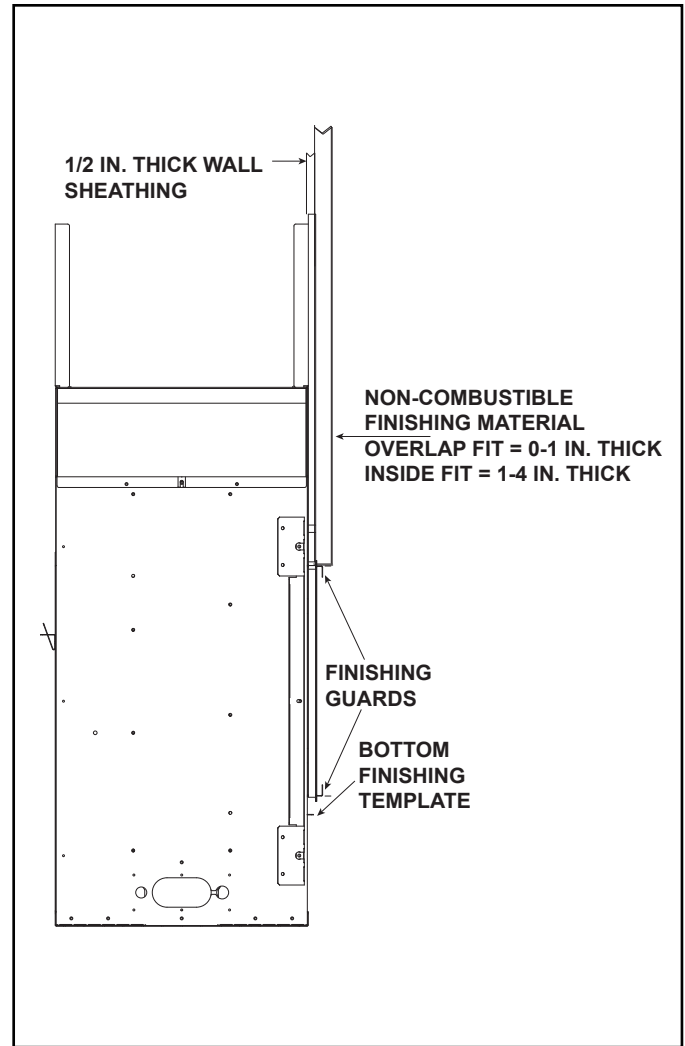
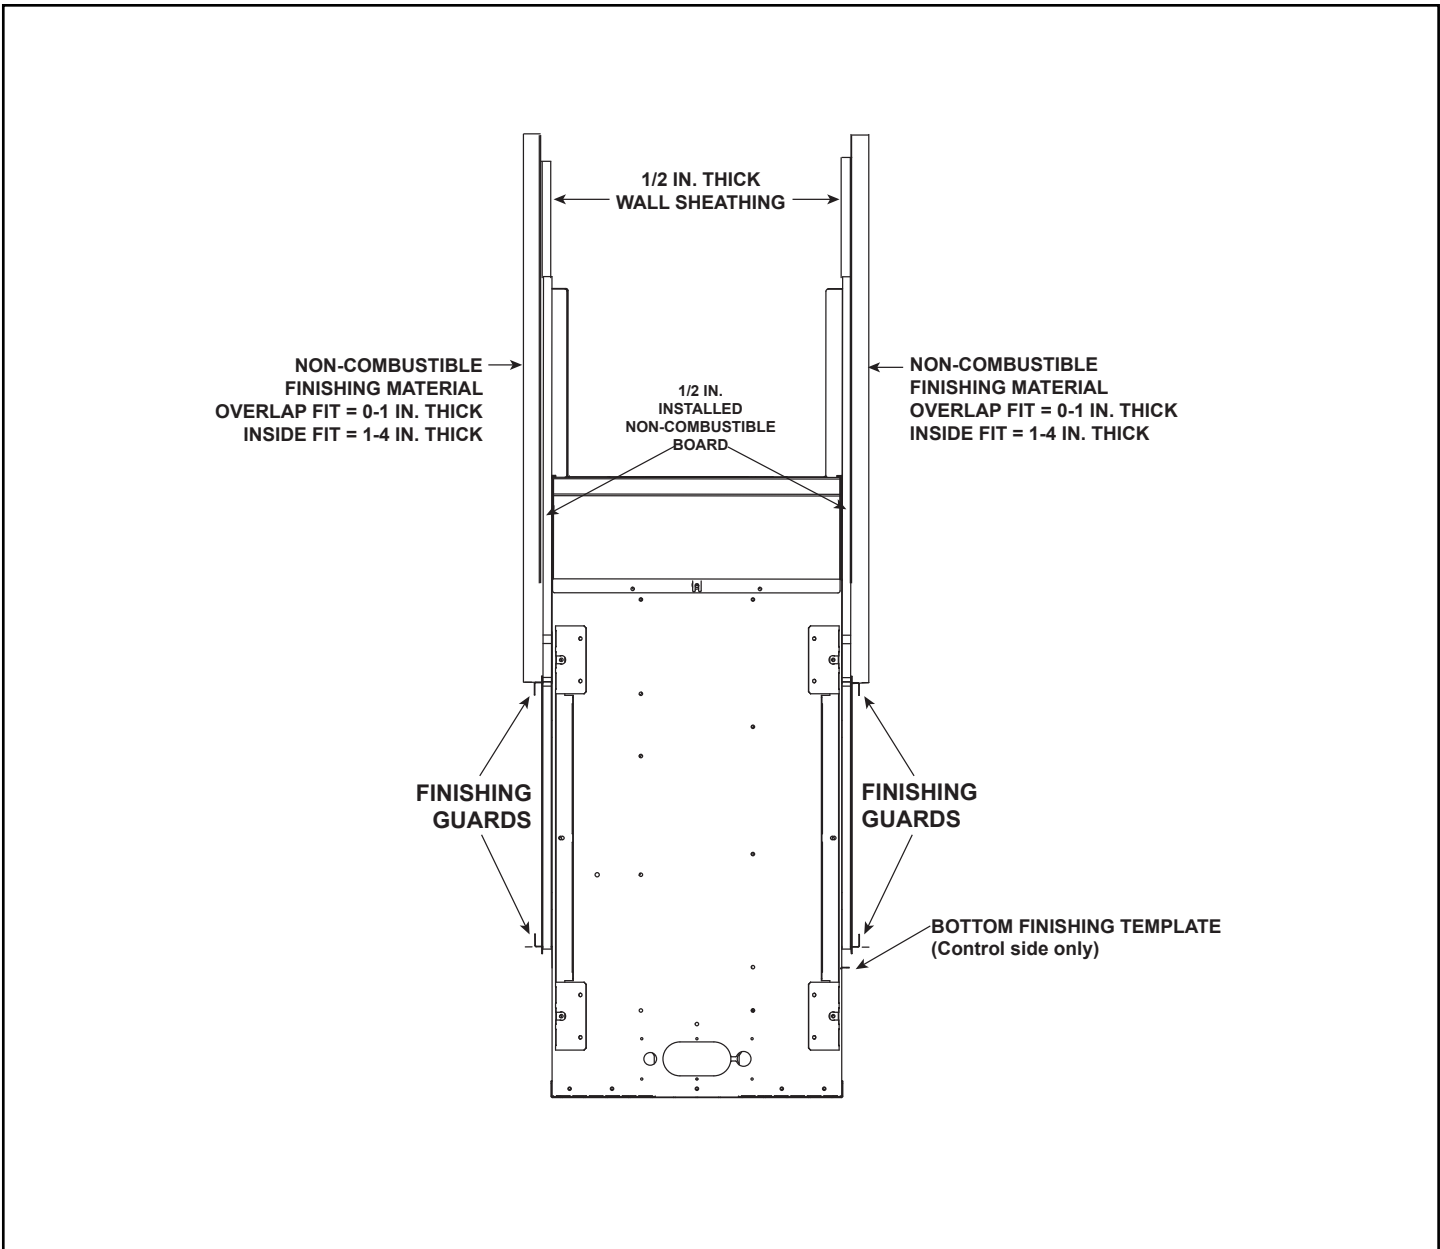

Figure 10.2 Finishing and Facing Materials - Single-Sided Models
Figure 10.3 Finishing Materials - See-Through Models
Decorative facing material thickness is measured from the face of the installed non-combustible board. See Figure 10.2 and Figure 10.3.
The fronts for this appliance are compatible with non-combustible materials. See Figure 10.2 and Figure 10.3.
Installation of finishing materials can be accomplished by either the “overlap” or “inside-fit” method, depending on what type of decorative barrier front is to be installed. See Figure 10.2 and 10.3. Overlap fit decorative barrier fronts include the Picture Frame Front. The Clean Face Trim Front (CFT) can be either an inside fit or an overlap fit. See Table 1.
1. Remove bottom finishing template from bottom access panel. Verify that factory-installed finishing guards are installed to ensure finishing material does not extend into the fireplace opening. See Figure 10.2 and 10.3.
1. Remove bottom finishing template from bottom access panel. Verify that factory-installed finishing guards are installed to ensure finishing material does not extend into the fireplace opening. See Figures 10.2 and 10.3.